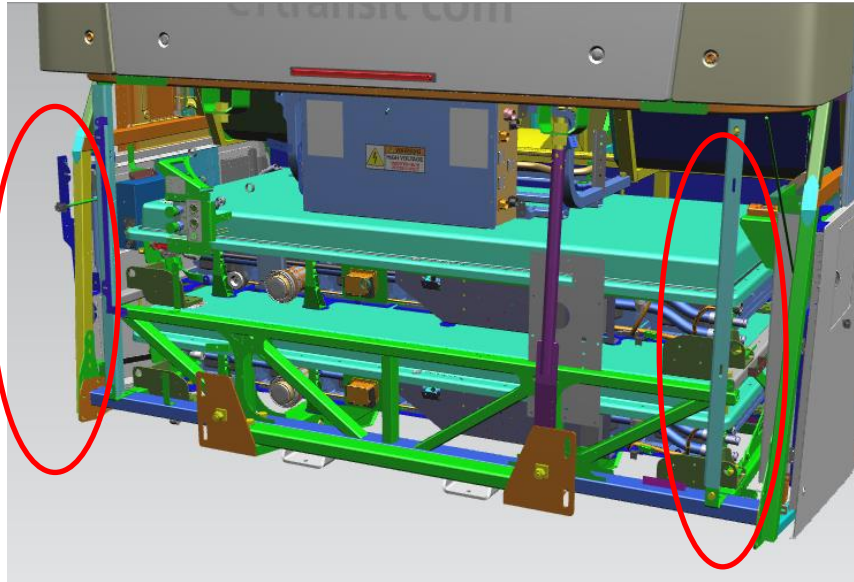

Figure 3: Lower Corner Pillars and Rear Door Removed
8. Remove the lower corner pillars (including turn signals and brake lights) and brackets. Save hardware for reuse. Reference figure 3 below.